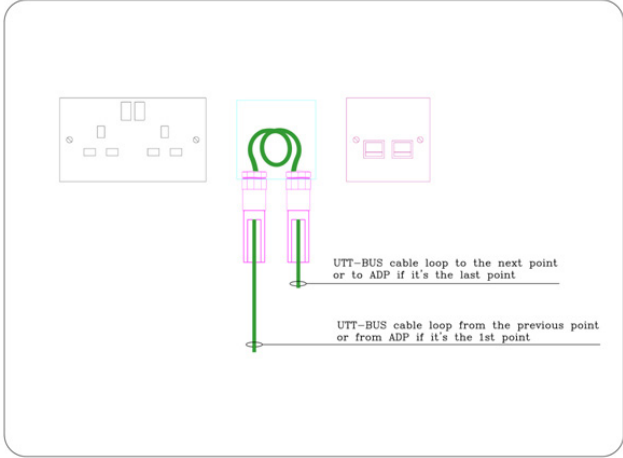

Figure 1.1.14: E Outlet Layout
1.1.9 ENTERTAINMENT (E) OUTLET
- According to the telecom guidelines, at least 1 dual data outlet is available in the living room zone at the TV location. Next to this data outlet, an outlet labeled as E with a blank plate should be provided as shown in Figure 1.1.14 along with a dual power socket.